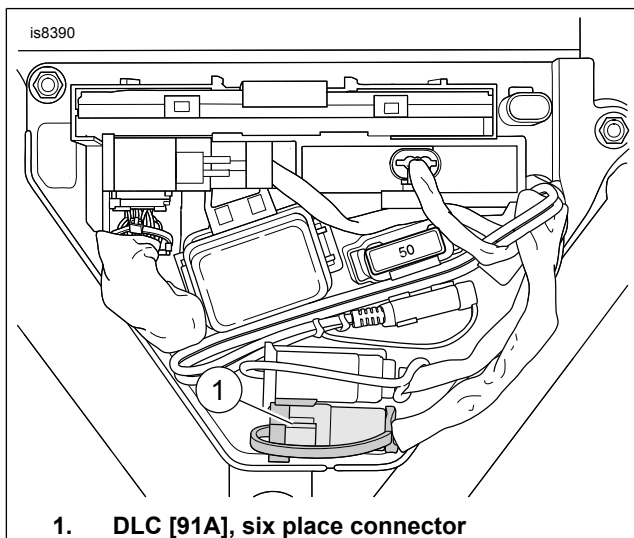

Figure 3. Accessory Connector (under left side cover)
5. Unscrew outer sleeve of socket assembly (1) from socket body. Place the socket body into the cover hole. Secure the socket in place by screwing the outer sleeve onto the socket assembly from the inside of the side cover.
- a. See Figure 3. Locate the DLC [91A] (1).